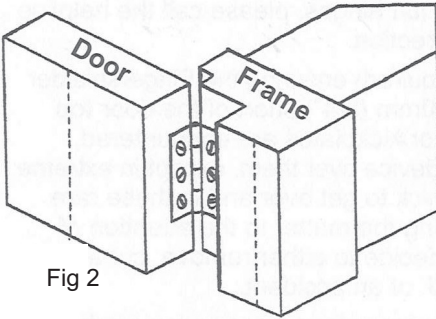
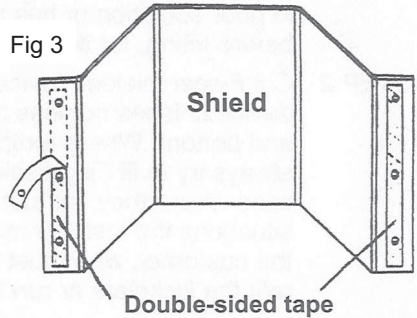
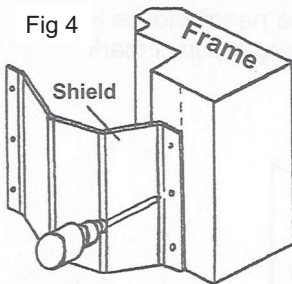

Fig 2
Fig 3
Fig 4
STEP 5 Open the door and wedge open (see fig 2). Remove double sided tape cover from one side only (see fig 3). Line up this edge of **Fingersafe Home** device on the guide line drawn on the frame. Once the device is aligned, press firmly into position to ensure maximum adhesion. Secure the device with the screws provided, ensuring there is a screw in every hole. (see fig 4)